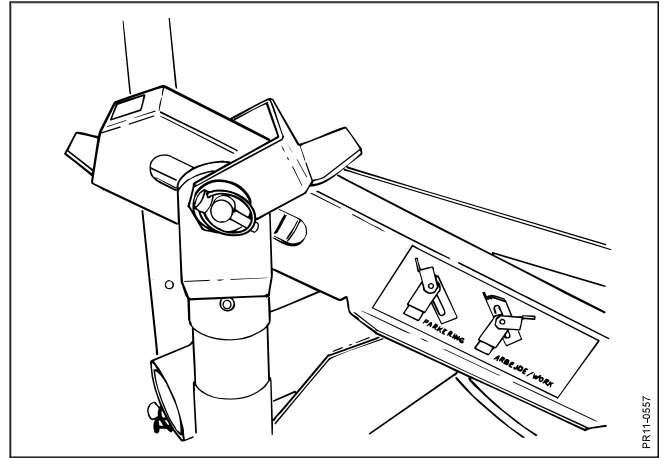

Fig. 2-5
- Fig. 2-5:** The depth stop on the lift arms must be adjusted so that there is a 2 cm slot above the pin in the relief device.